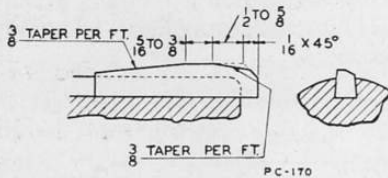

Fig. 44
*Finishing Reamer.* The profile of a blade for a finish machine reamer for steel is shown in Fig. 44. These finishing reamers are different from the roughing reamer in that the cutting is done by the front taper part of the blade, and not by the corner. Two to six thousandths should be removed from the diameter of the hole by the finishing reamer. Two operations, using wheel shape No. 25, are required when grinding.
**Grinding a Chucking Reamer for Cast Iron.** The profile of a chucking or machine reamer for cast iron is the same as a finish machine reamer for steel, shown in Fig. 44. The figures given in the illustration are for a reamer which is to remove .005" to .015" from the hole, depending upon the diameter. After setting up the machine as described on page 30, two operations are required, using the cup wheel, shape No. 23.